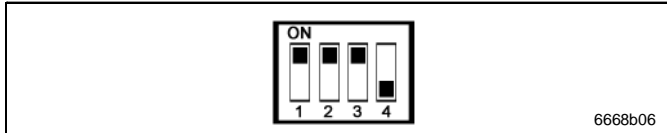

Fig. 14 DIP switch – configuration mode
- Set the DIP switches (see view Fig. 2, page 6) as shown in Fig. 14: